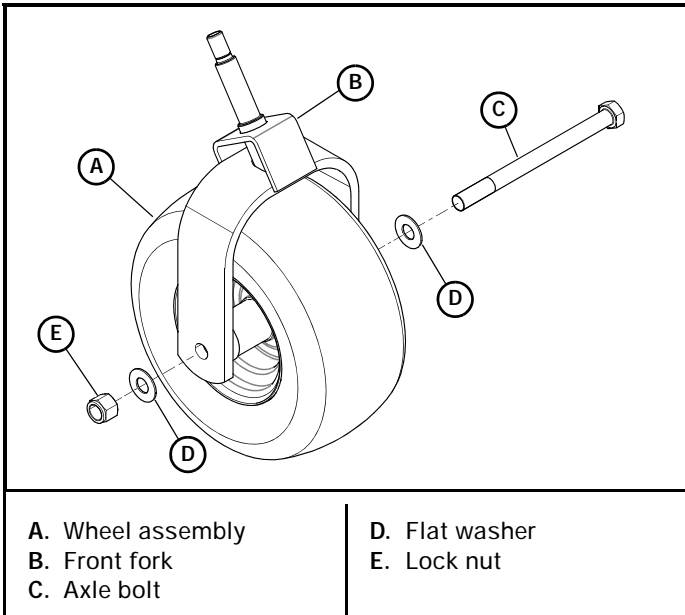

Figure 4-45
7. Slide the wheel assembly between the caster fork legs and assemble to the fork using the axle bolt, flat washers, and lock nut. Figure 4-45